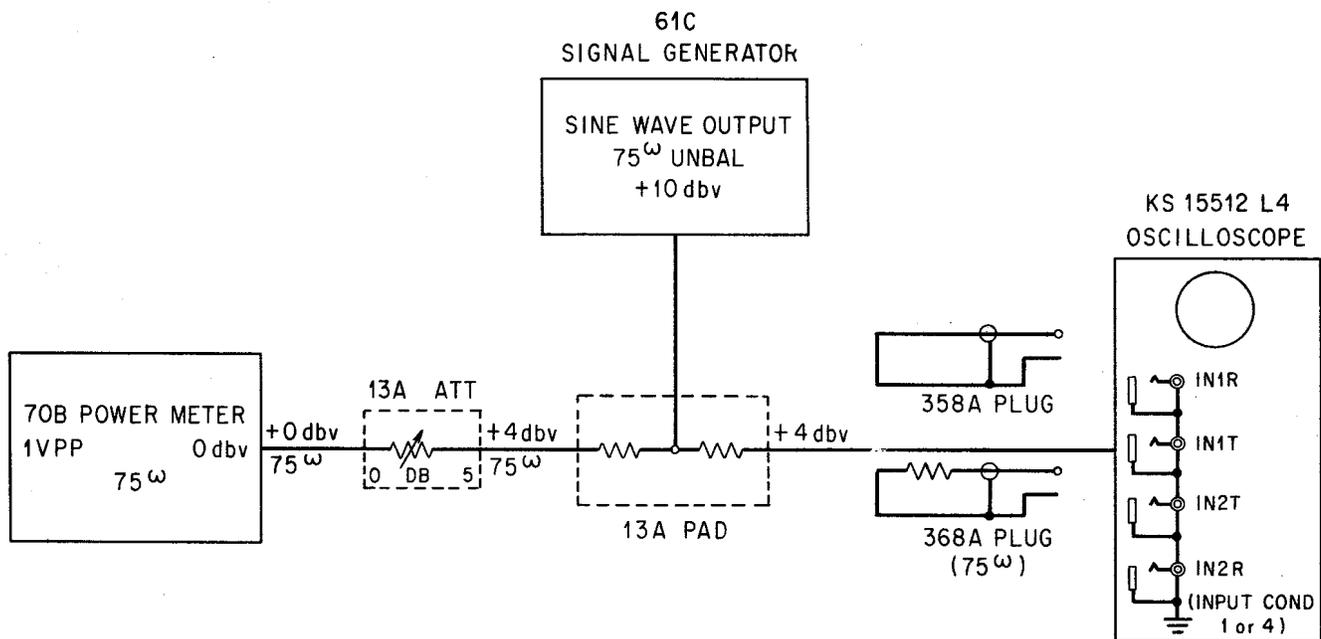

Fig. 6 – Vertical Amplifier Frequency Response
- (f) Use equipment arrangement illustrated in Fig. 6 and maintain input condition 1 or 4 to the oscilloscope. Adjust the signal source for a 1V P-P, 100 kc, 0 dbv indication on the power meter. Readjust the V GAIN control counterclockwise for a one inch deflection on the CRT.
9.03 Wide Bandwidth (High and Low Level Checks) Use the equipment arrangement illustrated in Fig. 6 for this test. Set up Condition 1 or 4 with the BANDWIDTH switch in the WIDE position and the V GAIN control set maximum counterclockwise. Adjust the signal source for a 1V, PP, 100 kc, 0 dbv reading on the power meter. Readjust the V GAIN control setting for a vertical deflection of 1 inch (20 divisions) on the scope. Without readjustment